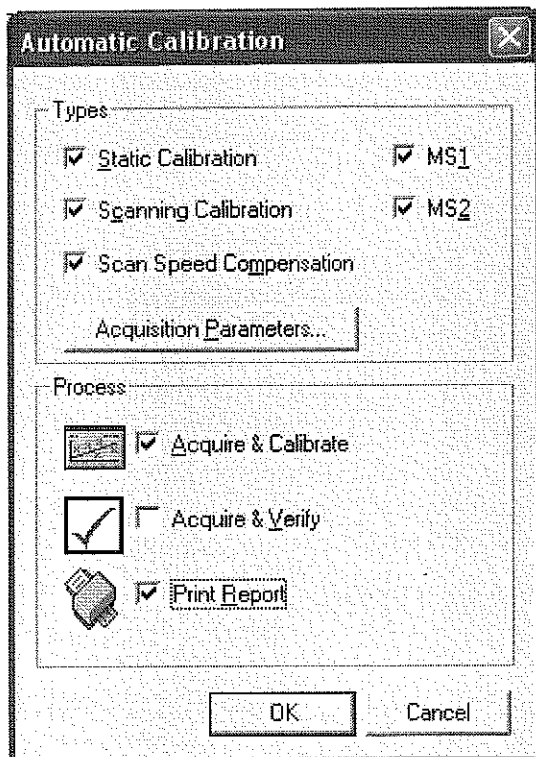

Figure 6-7 Automatic Calibration Dialog Box
Select the calibration types in the Automatic Calibration dialog box (Figure 6-7), which is opened by clicking  or by selecting Calibrate > Start from the Calibration Options window.
3. Click OK on the Automatic Calibration dialog box (see Figure 6-7).